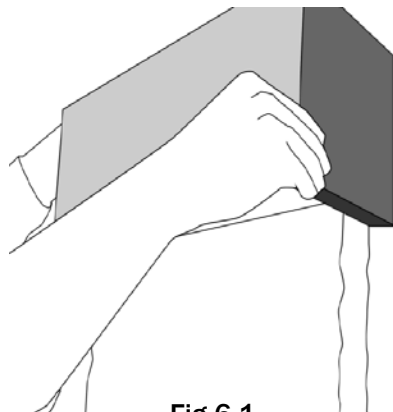

Fig 6.1
1. Locate the Header and Shroud (G). Install the Header by simply sliding it into the support pocket clips located on the stone wall bracket (B). It may be a very tight fit so you may need to pull the disperser forward to allow for the header to slide down into the clip (Fig 6.1). Take a few steps back looking at the fountain and make certain the header is sitting level.